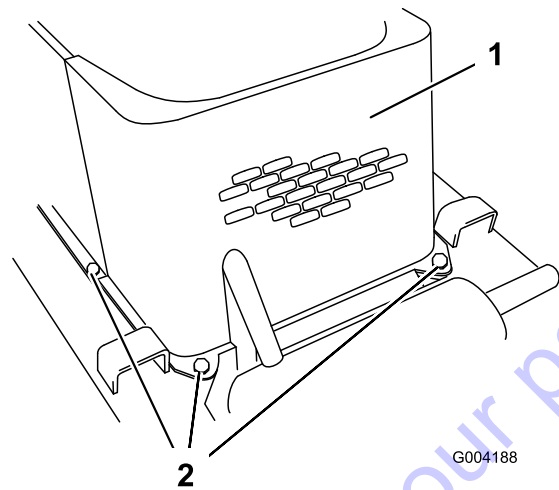

Figure 28
5. Remove the 4 bolts securing the front screen to the frame (Figure 28).